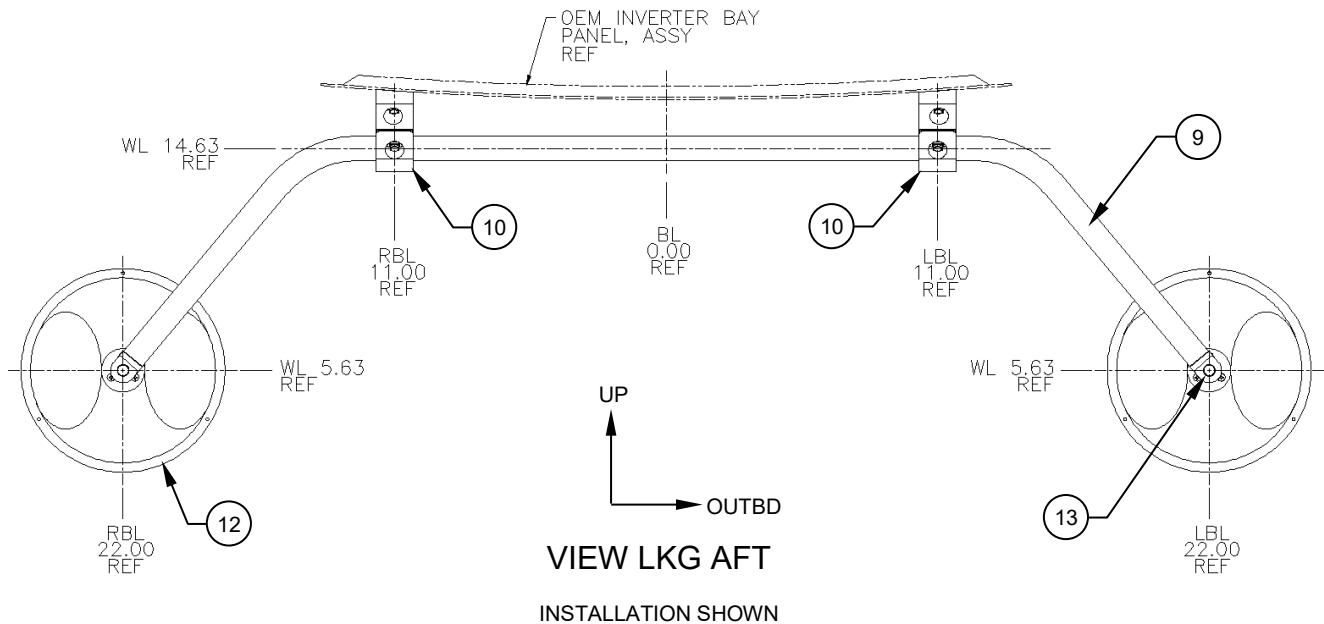

Figure 6
- Install the Mirror, Assys (Item 12) on the Crosstube, Assy (Item 9). Reference Figure 6.